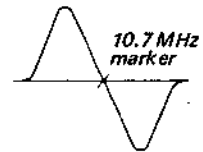

Fig. 2-4. "S" curve
3. Turn the core of discriminator transformer (IFT F5) to obtain the S curve response shown in Fig. 2-4.